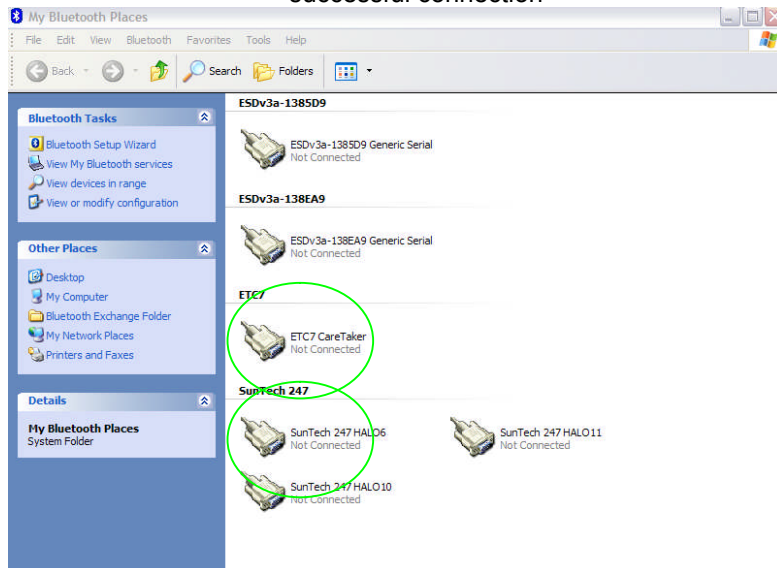

Figure 7a : My Bluetooth Places screen
- Double click the device, as in **Figure 7a**.